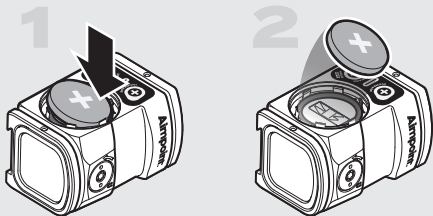

Fig. 2 Remove battery
- a Unscrew and remove the battery cap (3) using the flat side of the Aimpoint tool (8B).
- b If replacing battery, remove depleted battery from the battery compartment by carefully pressing down on an edge as shown in Fig 2.